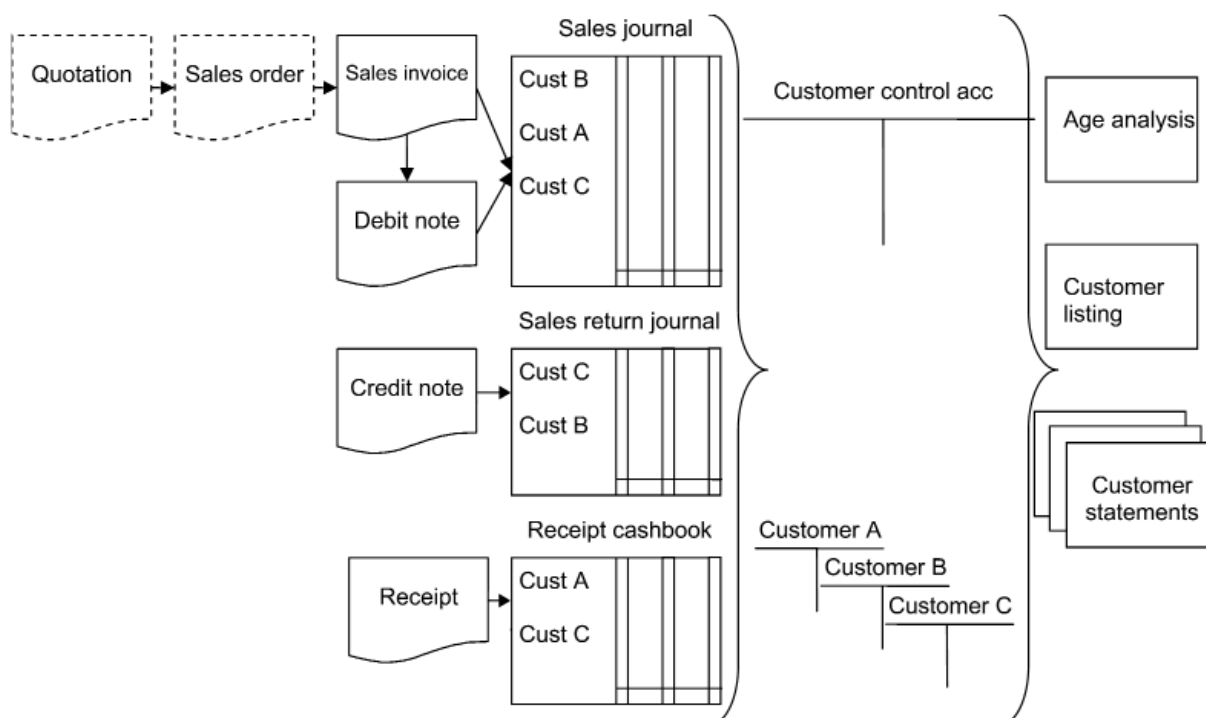

FIGURE 15.1: Sales process
See figure 15.1 below for a better understanding of the sales process.
- Refer to figure 15.1 for the **sales** process, and draw your own figure with the relevant documents, journals, general ledger accounts and reports for the **purchase** process. Use the outlines below to assist you.